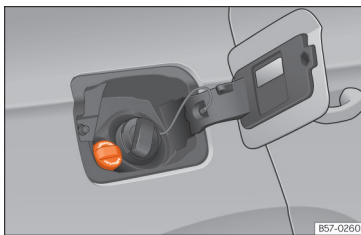

Fig. 205 AdBlue tank cap®.
- Open the tank cover >>> **Fig. 205.**
- Turn the SCR tank cap anti-clockwise >>> **Fig. 205.**